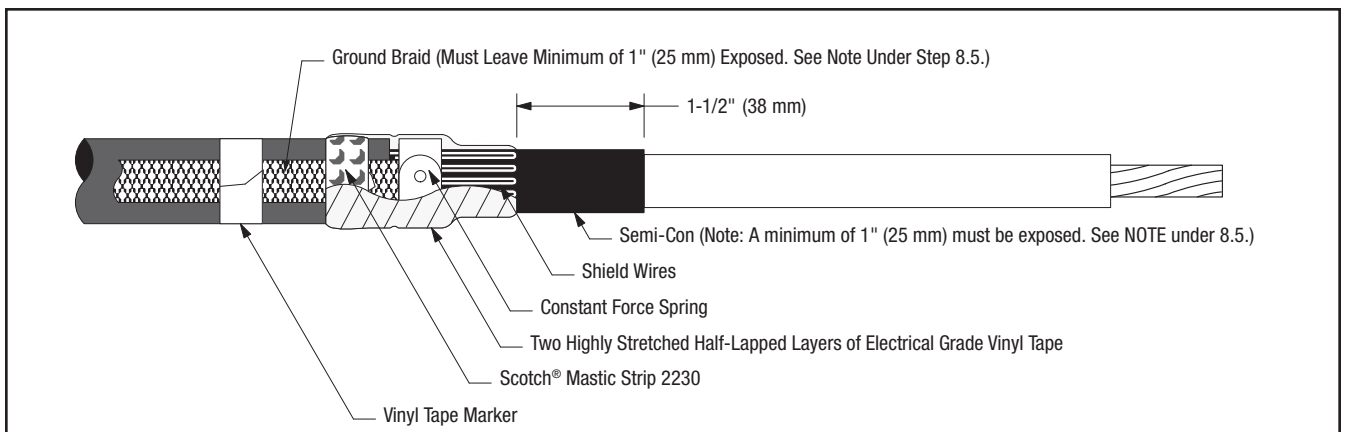

Figure 14
8.5 Wrap two highly stretched half-lapped layers of electrical grade vinyl tape around mastic seal, constant force spring and exposed shield wires (Figure 14).